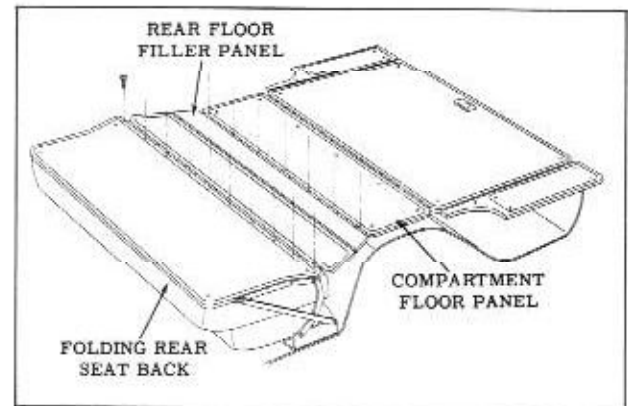

Fig. 15-68 Folding Rear Floor Filler Panel Assembly
2. Remove filler panel to folding seat back attaching screws and filler panel to rear seat pan attaching screws as shown in Fig. 15-68, and remove filler panel from body.